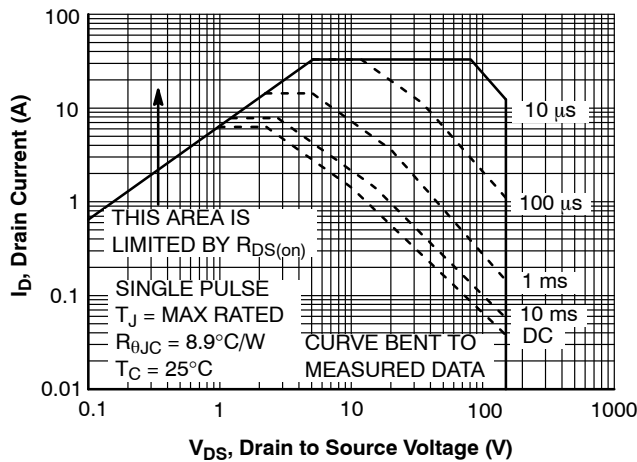

Figure 11. Forward Bias Safe Operating Area
- Q1: Pulsed  $I_d$  please refer to Fig 11 SOA graph for more details.